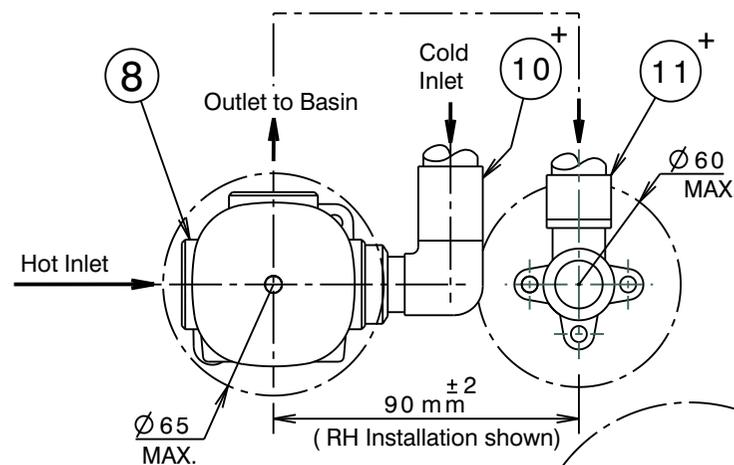

Fig. 2
- 1) Determine if outlet (12) is to be positioned to the right or the left of the mixer body (8) when installed (Fig.2.). Fit mixer body (8) onto a suitable mounting plate or noggin in the wall and secure using screws through the holes in its base. **Note:** Fit the cover plate (9) to the mixer body (8) and level off one edge before fixing the body in position. When facing the mixer, the connections should be as follows :
Note : A suitable elbow fitting (10+) should be fitted to the inlet connection adjacent to the outlet (12) (Fig.2). Check all connections for leaks.